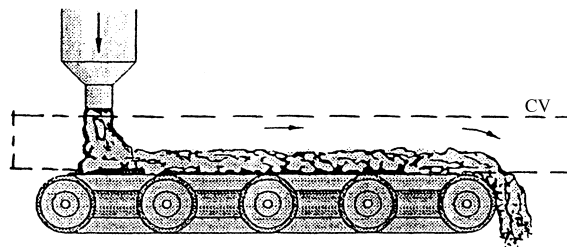

Fig. P3.67
3.67 Gravel is dumped from a hopper, at a rate of 650 N/s, onto a moving belt, as in Fig. P3.67. The gravel then passes off the end of the belt. The drive wheels are 80 cm in diameter and rotate clockwise at 150 r/min. Neglecting system friction and air drag, estimate the power required to drive this belt.